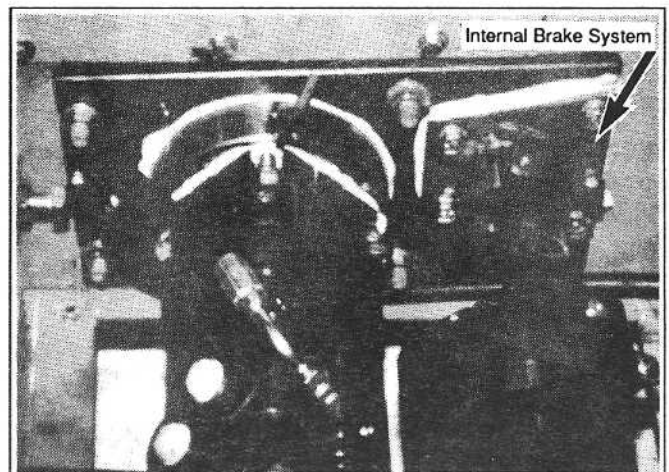

Figure 5-9
- 5b. 930 units after S/N 9301900, 940 units after S/N 9405795 and 960 units after S/N 9603401 have the brake system located inside the chain case. (See figure 5-9) Remove the four (4) 1/2 inch bolts from the drive motor and remove. (Removal of the brake actuating lever from the opposite side will allow more clearance for the R&R of the drive motor.) (See Brake section.)